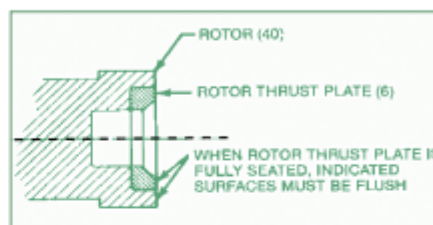

Figure 4-6. Rotor Thrust Plate Seating Detail
- Slip O-ring (41) over the rotor head and allow to hang loose with head ring. Insert primary thrust plate (6) into rotor head, flat side first. Thrust plate and rotor head surfaces must be flush to assure proper assembly and operation of the pump. (See fig. 4-6.)
- Assemble the rotor end gear joint by first fitting a gear joint seal (13) onto the connecting rod assembly (38). The seal must be positioned so that the flat face of the seal neck fits into the seal retainer component of the connecting rod assembly. Apply a small coating of approved gear joint lubricant to the inside surfaces of the seal.
- Apply a small amount of lubricant to the flat face of the seal support (12) and slide it onto the connecting rod so that the flat face and radius of the support is against the seal.
- Grease the concave spherical surface of the rear thrust plate (11) and position thrust plate against the seal (13) with the lip on the outside diameter of the seal fitting the step on the back side of the thrust plate.